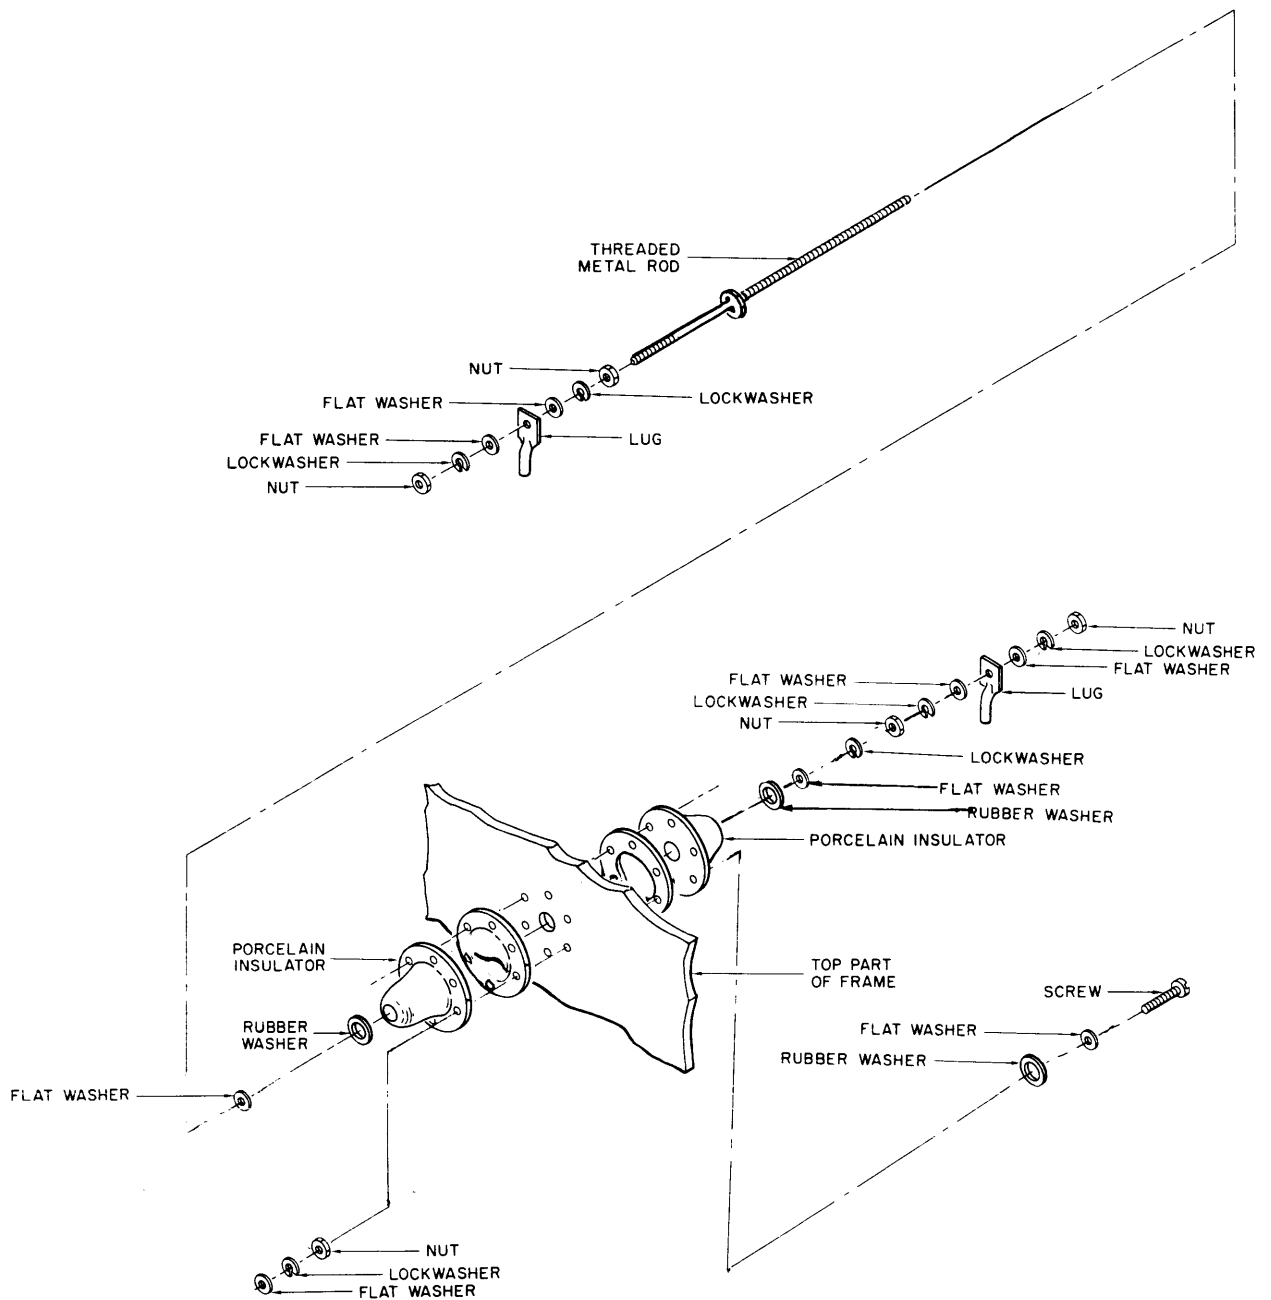

Figure 2-11. Balanced Output Bowl Assemblies, Installation Diagram.
- a. Insert threaded bowl rods (contained in crate 2) into porcelain bowl assemblies, figure 2-11, located on top of the second frame.